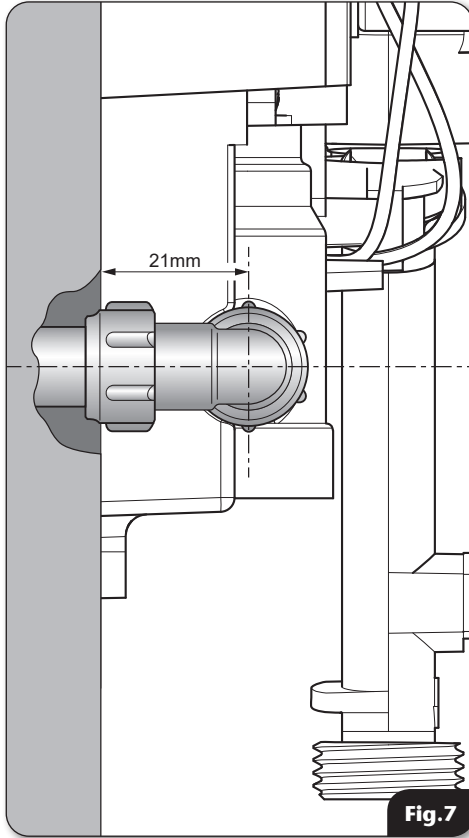

Fig.7
- Compression fittings **MUST** be used to connect to the inlet of the shower (**fig.7**). Push-on fittings must **NOT** be used as full engagement cannot be guaranteed.
- If installing a feed pipe from the back or bottom, the centre of the inlet valve to the wall surface is 21mm (**fig.7**).